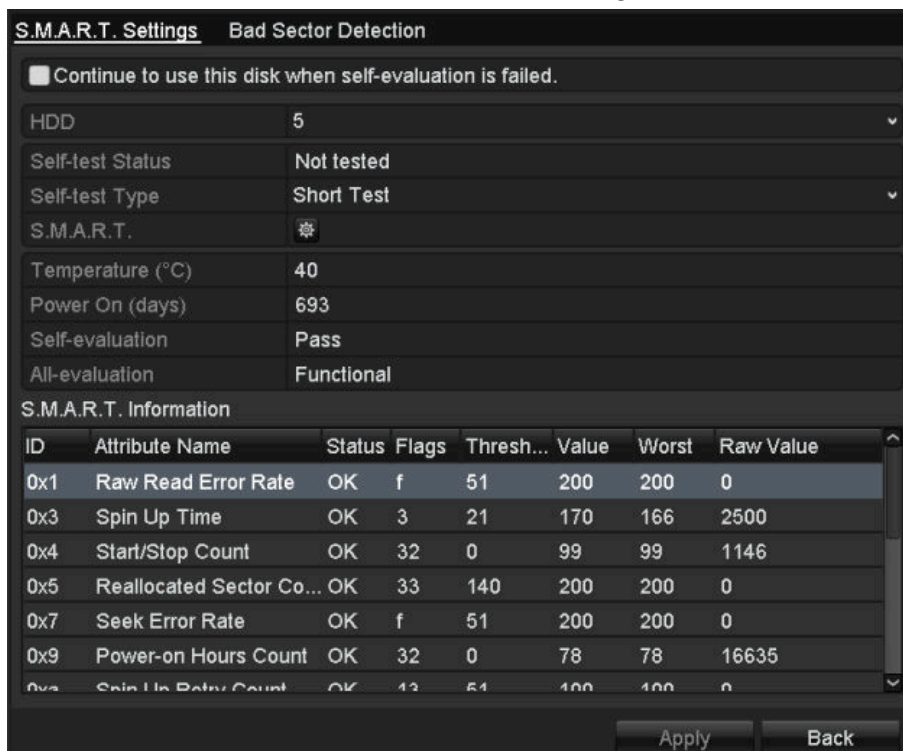

Figure 12. 22 S.M.A.R.T. Settings Interface
2. Select the HDD to view its S.M.A.R.T. information list, as shown in Figure 12. 22.